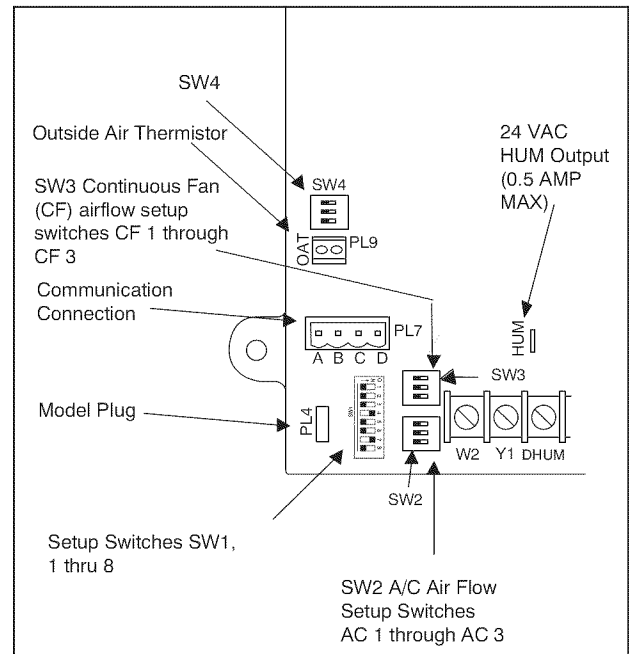

Fig. 45 - Furnace Control
5. Turn Setup Switch SW1-2 on furnace control ON (see Fig. 45).
1. Verify SW1-2 on furnace control is turned "ON". See Fig. 45.